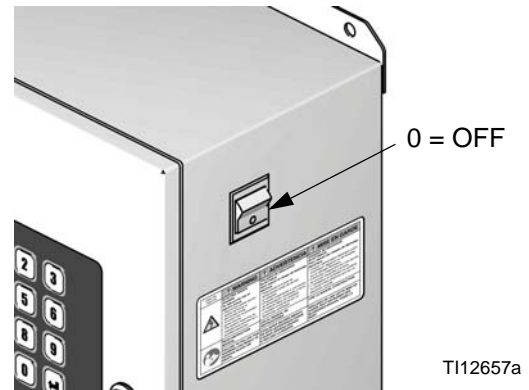

FIG. 12: Power Off
3. Shut off ProControl 1KS power (0 position). FIG. 12.